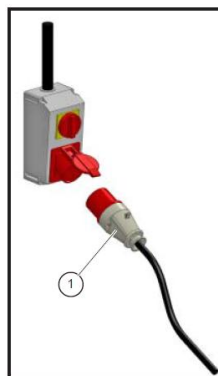

Fig. 1-12
- All the cleaning and maintenance works are to be effected with the machine at stop and the power off except where otherwise indicated; the plug should therefore disconnected (1 fig. 1-12) and completely removed away from the socket.
Machine at stop and plug disconnected from the socket (1 fig. 1-12).
Machine at stop and disconnected electric plug (1 fig. 1-12).